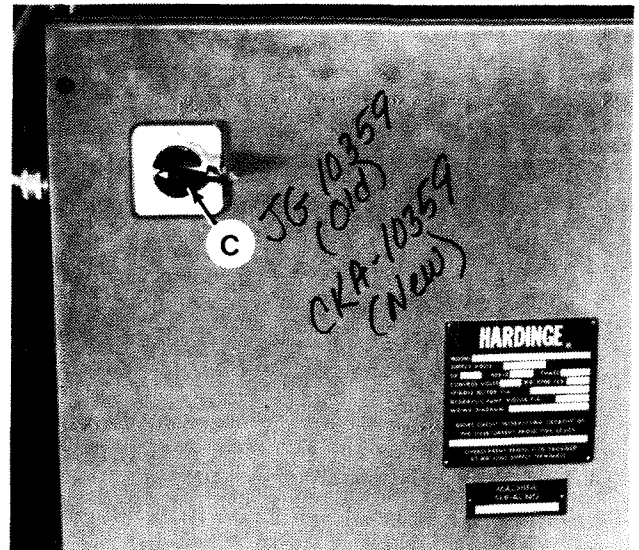

Figure 4.15 - Main Disconnect Switch
19. Turn main disconnect switch "C", Figure 4.15, OFF.
15. Turn main disconnect switch "C", Figure 4.15, ON.
1. Turn main disconnect switch "C", Figure 4.15, OFF.